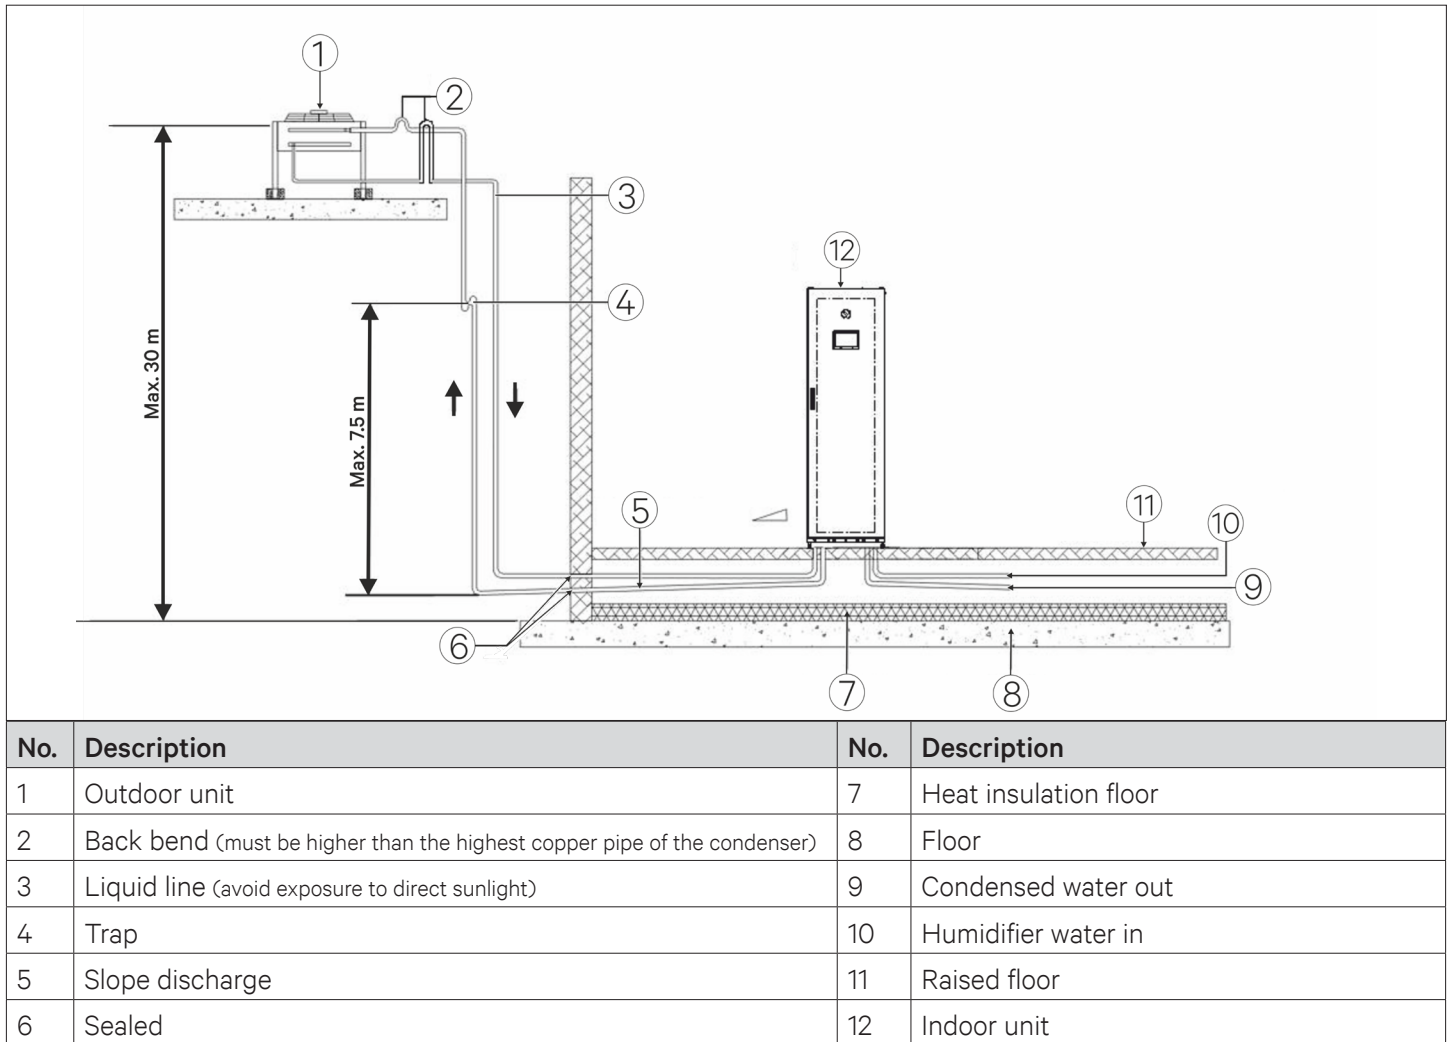
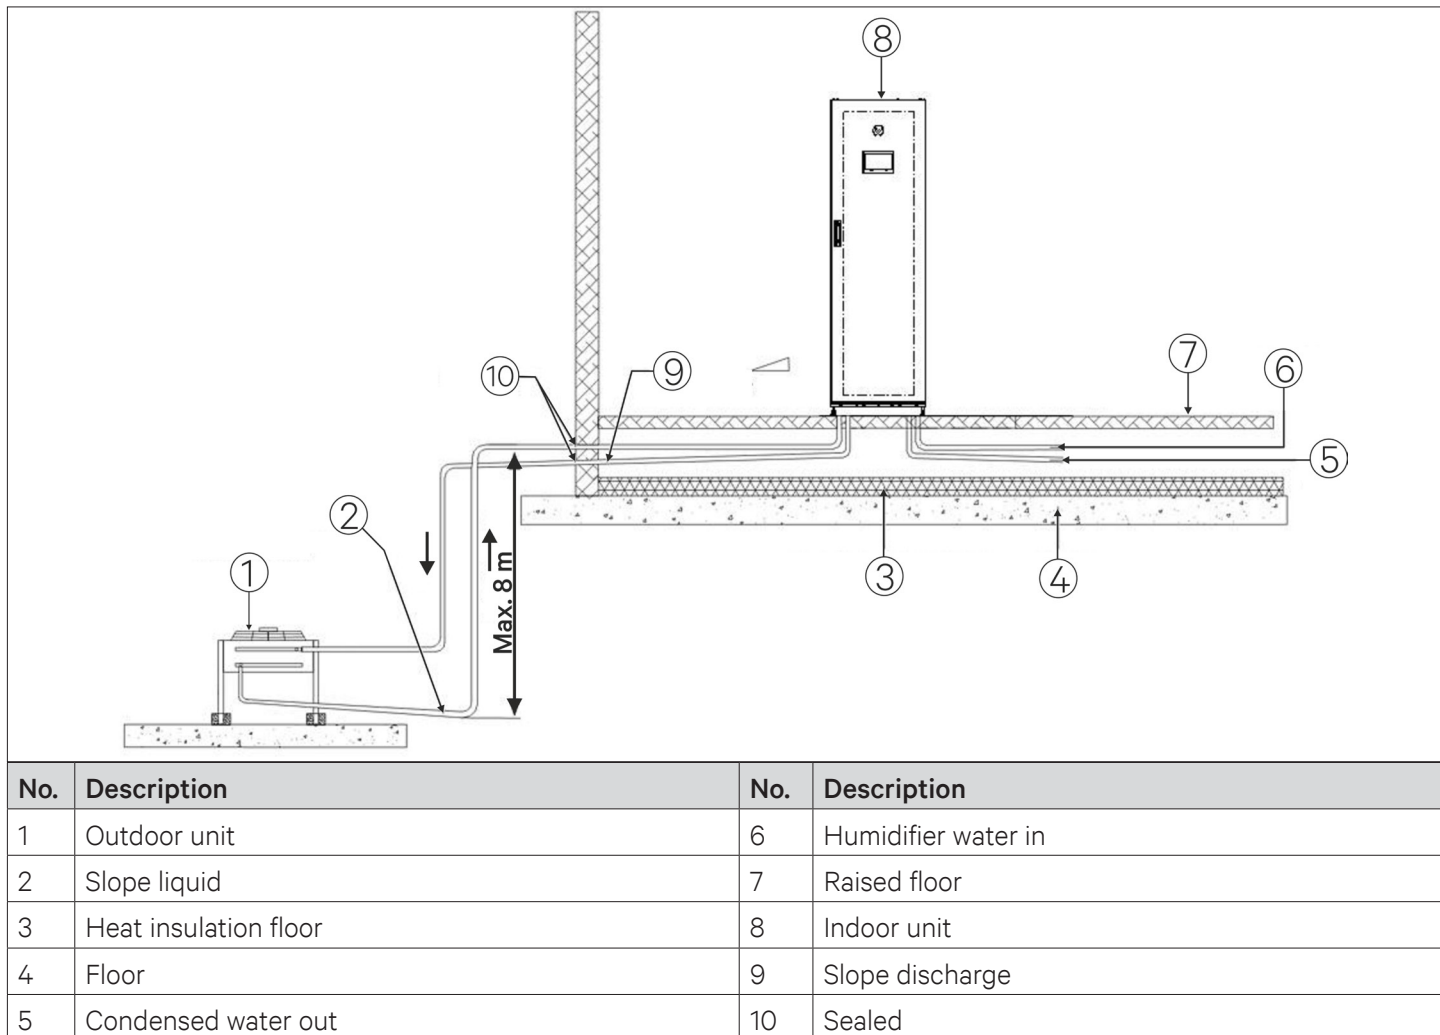

Figure 3-1 The Outdoor Unit is Placed Higher than the Compressors during Installation
Figure 3-2 The Outdoor Unit is Lower than the Compressor during Installation
The Liebert® CRV4 series adopts air-cooled heat dissipation with matching Liebert condensers such as Liebert LVC or Liebert LSF. The installation modes of the Liebert CRV4 series are shown in Figure 3-1 and Figure 3-2.
- In Figure 3-1, the outdoor unit is installed higher than the compressor. Therefore, an inverted backbend is fitted to the discharge line and the liquid line of the outdoor unit. The modification is essential as it helps prevent the liquid refrigerant from flowing back once the outdoor unit (condenser) stops.